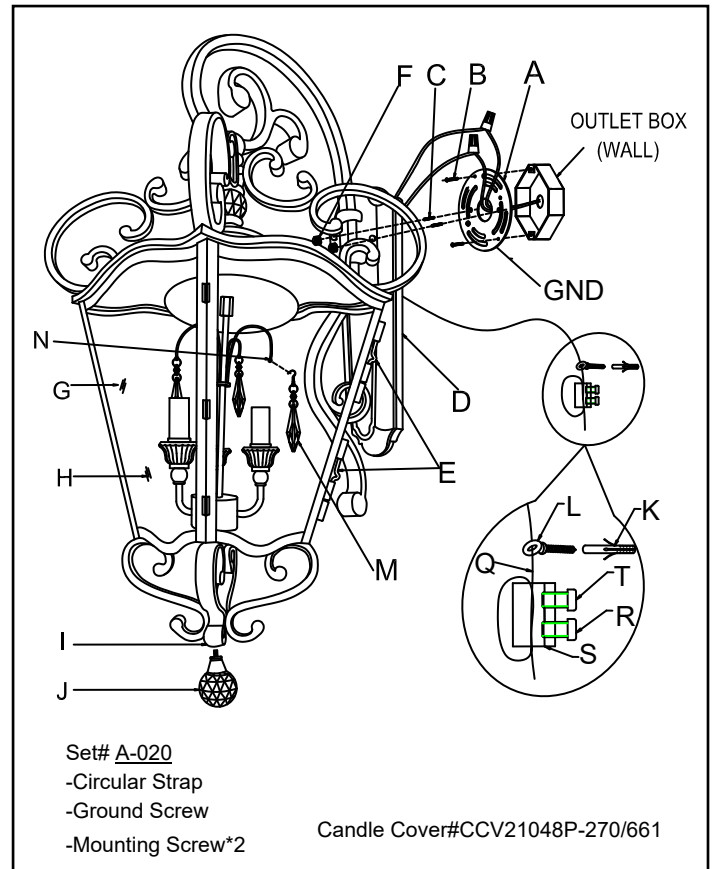

Fig.2
CONNECTING THE WIRES (Fig. 2)
7. Connect the electrical wires as shown in figure 2, making sure that all wire connectors are secured. If your outlet has a ground wire (green or bare copper), connect the ground wires from the fixture to it. Otherwise, connect the ground wire from the fixture directly to the circular plate (A) and secure with the green screw provided. After wires are connected, tuck them carefully into the wall outlet box.